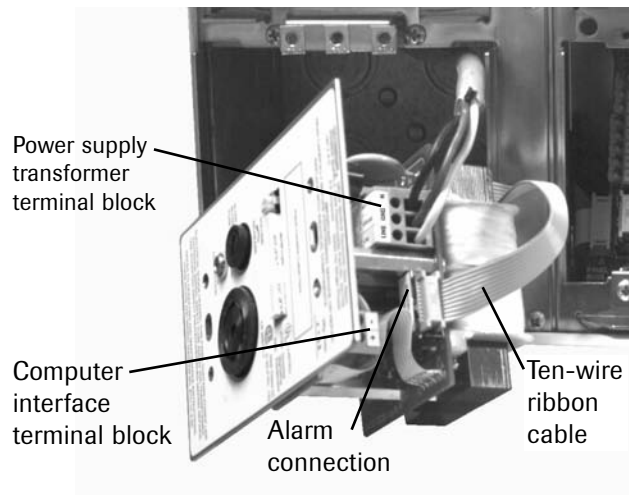

Figure 10
2. Strip 1/4" insulation from LINE, GROUND and NEUTRAL leads and insert into the appropriate terminals on the POWER SUPPLY TRANSFORMER terminal block. Tighten the terminal screws. Refer to **Figure 10** and **Schematic 1**.
3. Connect the ten-wire ribbon cable from the adjacent module to the connector labeled ALARM CONNECTION on the power supply chassis. Refer to **Figure 10** and **Schematic 1**.
4. If alarms are to be networked, strip 1/4" insulation from network leads and insert into the appropriate terminals on the COMPUTER INTERFACE terminal block. Tighten the terminal screws. Refer to **Figure 10** and **Schematic 10**.